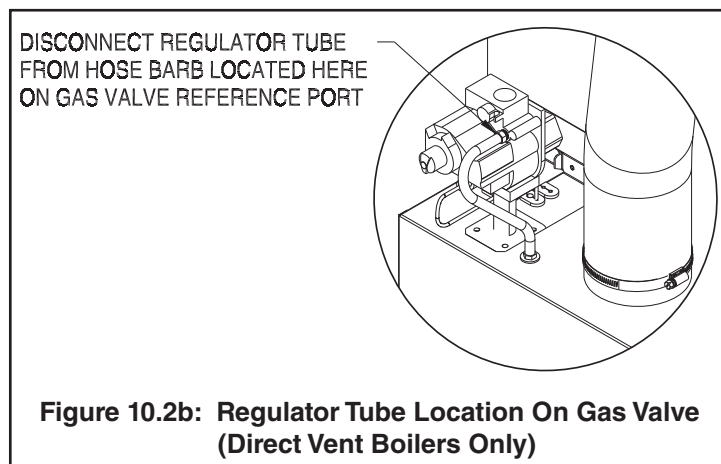

Figure 10.2b: Regulator Tube Location On Gas Valve (Direct Vent Boilers Only)
4. If boiler is installed with a direct vent kit, disconnect the regulator tube from the hose barb on the gas valve (Figure 10.2b).
8. If boiler is installed with a direct vent kit, reconnect the regulator tube to the hose barb on the gas valve (Figure 10.2b).